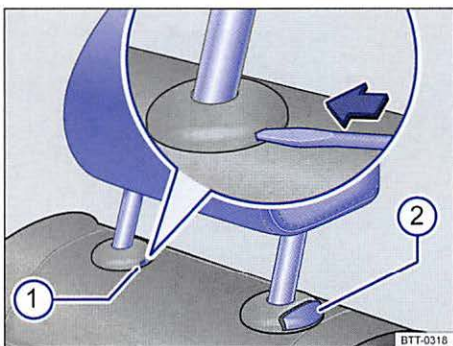

Fig. 40 Removing the rear head restraints.
- If necessary, press the flat blade of the screwdriver from the vehicle tool kit into the slit of the trim cap $\Rightarrow$ fig. 40 ① in the direction of the arrow and hold it in this position.
- At the same time press button ② while a second person pulls out the head restraint completely.